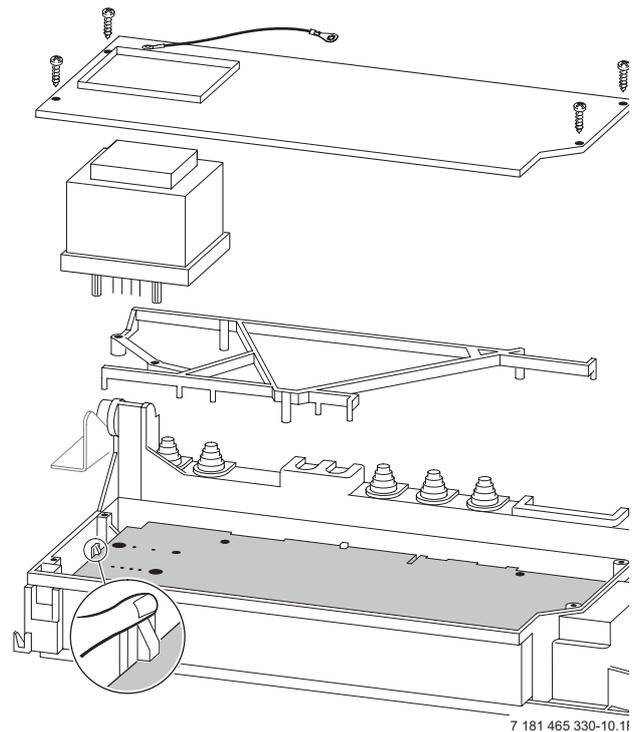

Fig. 53
- ▶ Unscrew four fixing screws from cover plate. Refer to fig. 53.